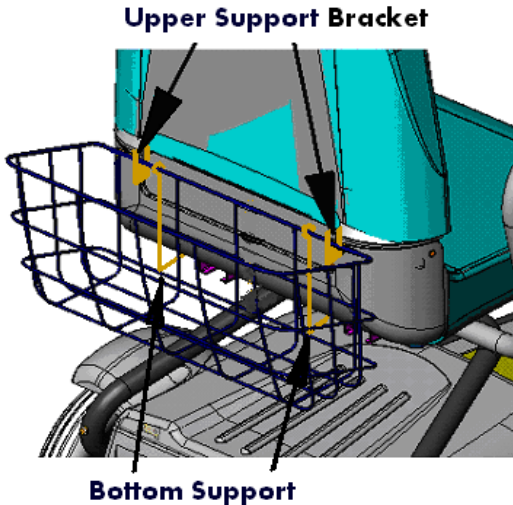

Figure 12
- a. Install the **Rear Basket** by placing it on the two **Upper Support bracket** at the rear of the seat back lying on the **Bottom Support**. (See Fig. 12).